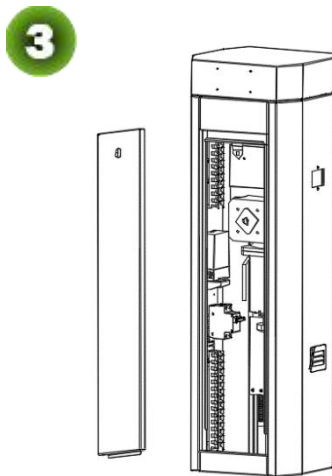

Figure 2-3C
- 3) Open the access door and install the parking barrier, as shown in Figure 2-3C.